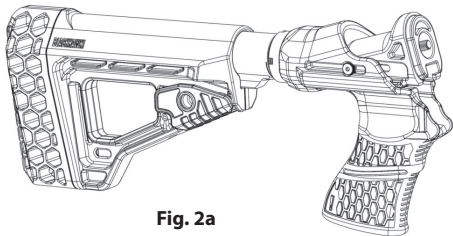
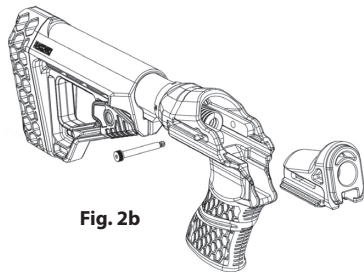

Fig. 2a
Fig. 2b
2. Installation of the SpecOps Gen III requires the separation of the top slide from the main stock assembly. Utilizing the provided 3/32" hex wrench, completely remove the cross bolt located just above and to the left of the pistol grip (*Fig. 2a-next page*). With cross bolt removed, separate the top slide from the stock assembly by sliding the two apart. Ensure that the spring remains in the spring tube within the grip (*Fig. 2b-next page*).